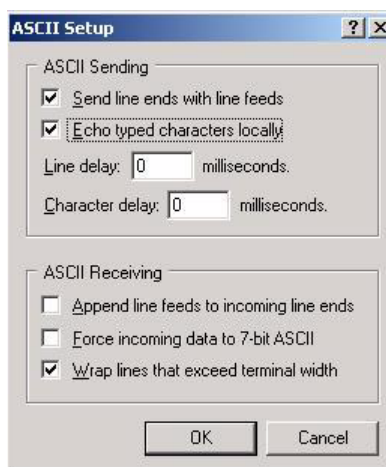

Figure 1-13. Additional Terminal Program Settings
2. In the PC terminal program, set the properties in the optional settings as shown in Figure 1-13.